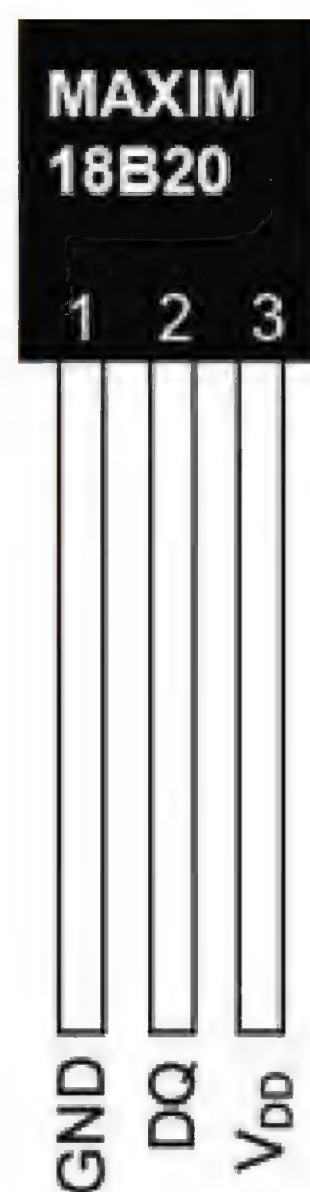

Figure 2. The Maxim Integrated DS18B20 temperature sensor.
Figure 2 is a block diagram of the battery power supply. At the top is the voltage converter that boosts the battery voltage to the 20 volts (max) needed by the LED lamp. In the center block is the 150 mA current source with a dimming control. The bottom block is the battery low voltage detector that warns the user of low battery voltage by dropping the current source setting, and
■ **FIGURE 2.** Block diagram of the battery power supply showing the three main components.